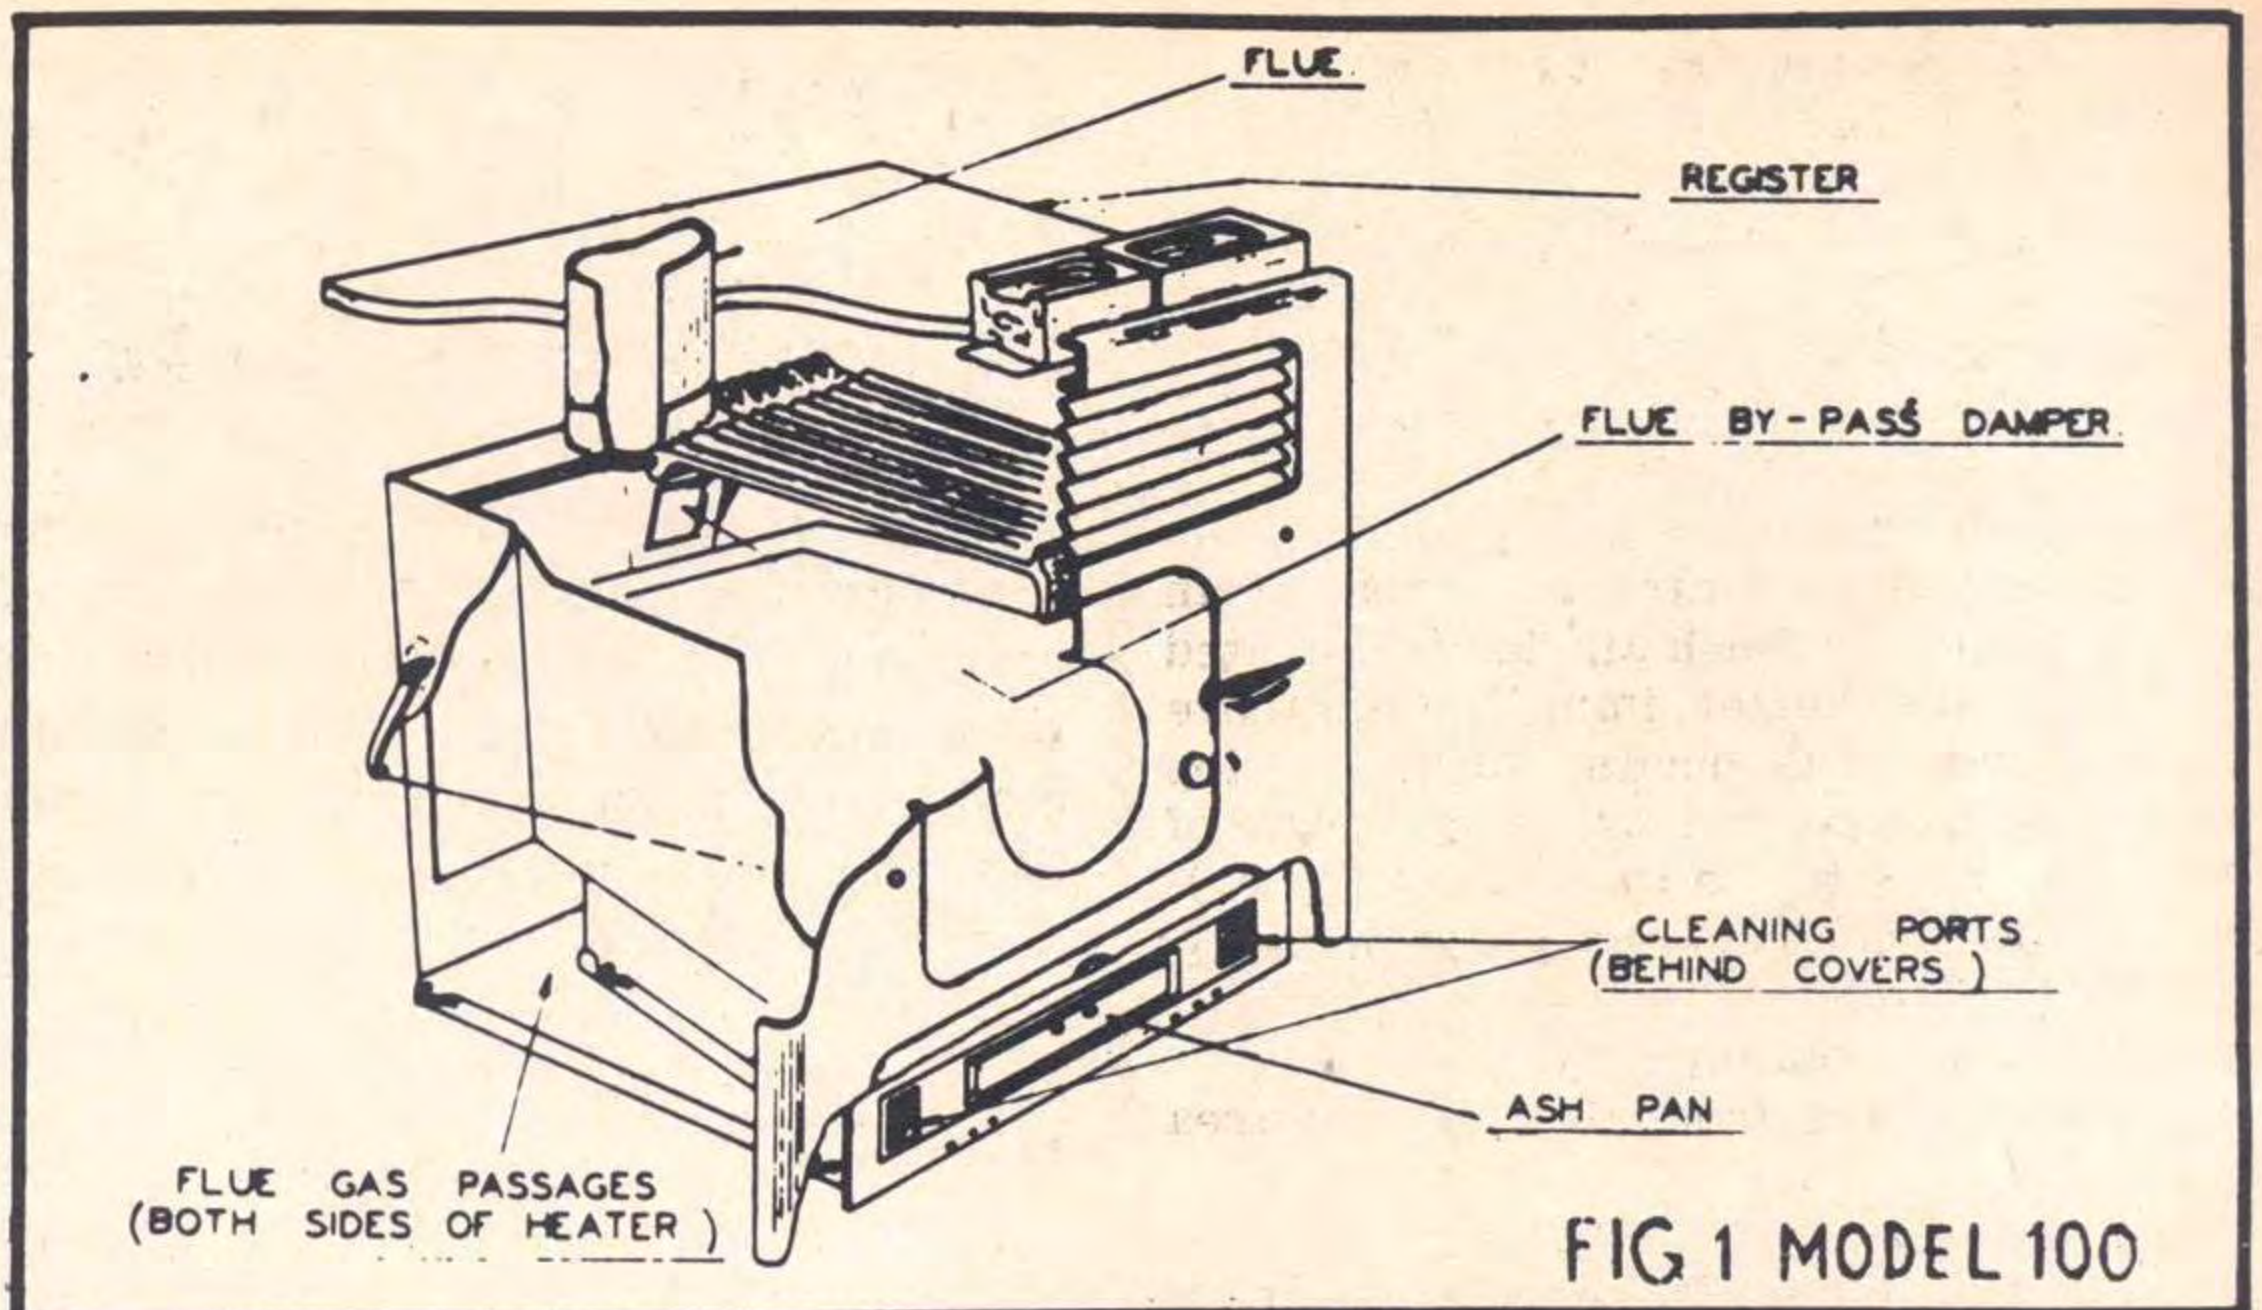

FIG 1 MODEL 100
3. Access is now available to the cover of the cleaning port which is situated on the back wall inside the ash pit and behind the normal position of the ash pan - see Figure 1. This cover is fastened to the heater body by either slotted or hexagon headed screws which must be removed with a suitable screw
Model 100 (Fig. 1)